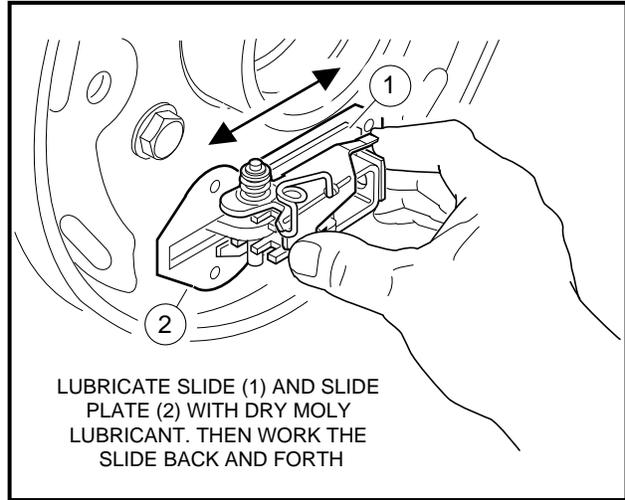

Figure 6-8 Lubricate Slide and Slide Plate
- Lubricate slide (1) and slide plate (2) with dry moly lubricant (Club Car Part No. 1012151). After lubricating, work the slide back and forth to ensure that it slides smoothly and easily (**Figure 6-8, Page 6-6**).